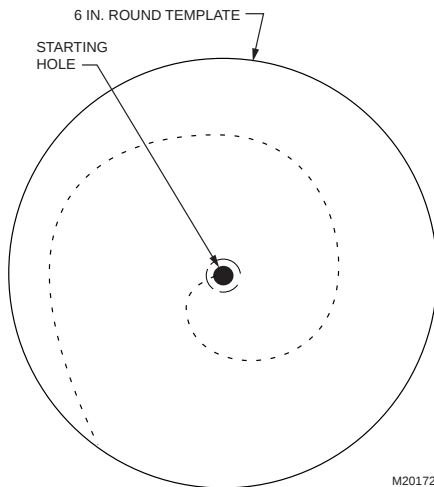

Fig. 6. Cutting bypass opening.
- 10. Carefully cut the opening for the 6 in. (155 mm) starter collar end of the 48 in. (1.22 m) flex duct. See Fig. 6. Use a drill to start the cut in the middle of the circle. Cut in an outward spiral to assist in controlling the cut.